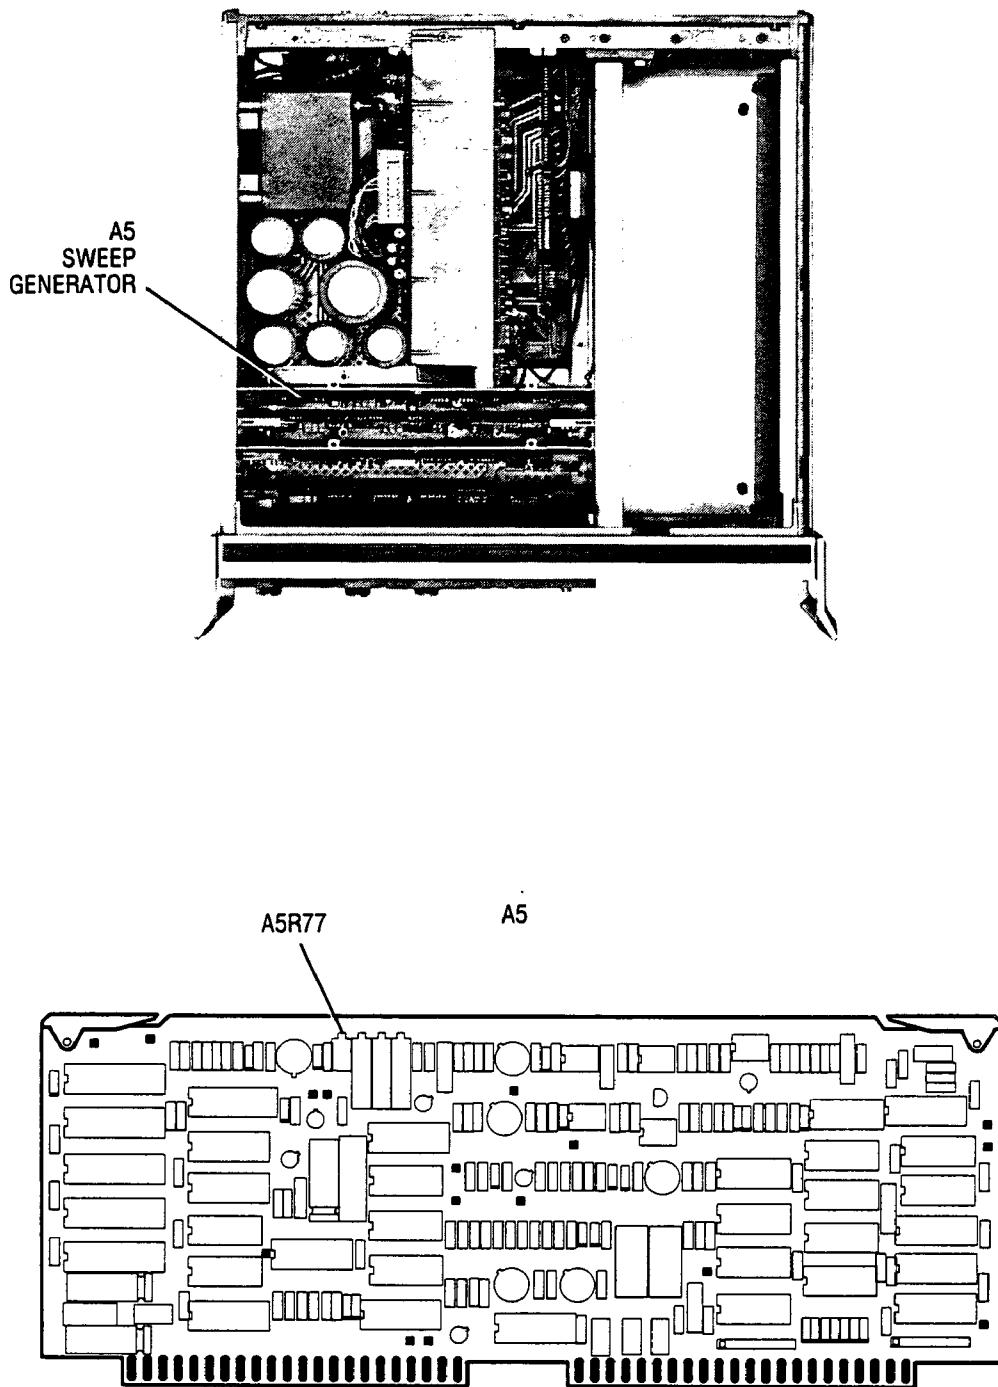

Figure 5-13. Location of Sweep Retrace Time Adjustments.
7. A5R77 is adjusted to give a counter reading of  $15.0 \pm 1.0$  ms. Refer to Figure 5-13 for A5R77 component location.